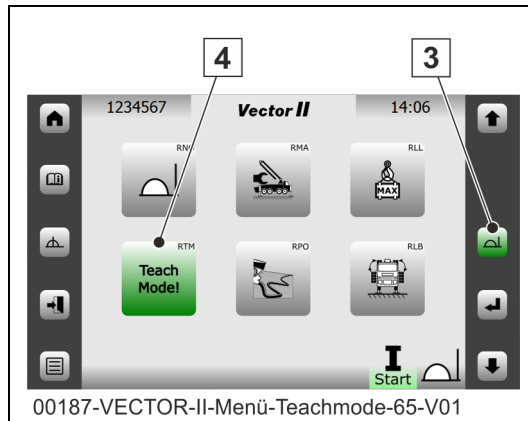

Fig. 106 Teach mode menu
3. Open the selection window for the "REMOTE" operating modes (3) (**Fig. 106**).
4. Select the "Teach mode" menu item (4) (**Fig. 106**) and press "Execute".